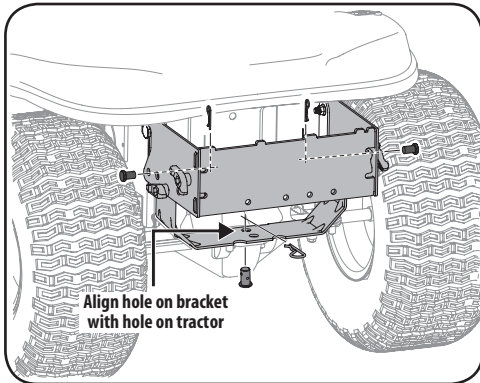

Figure 4-8
2. Install the clevis pin (711-0309A) from hardware pack 689-00328A into the tractor's hitch and secure with a hairpin clip (714-0117). See Figure 4-8.
3. Install two clevis pins through the mounting assembly and secure to the 700 series mounting brackets installed earlier with click pins provided in the hardware pack. See Figure 4-8.